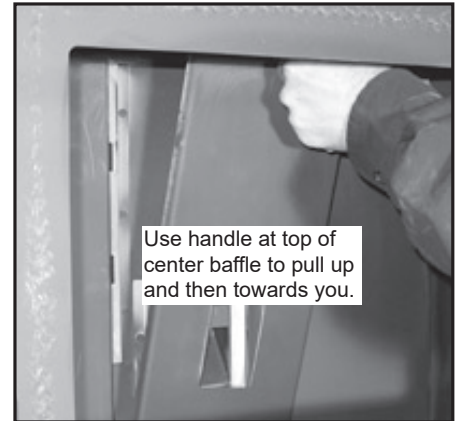

Figure 26.2
2. Remove the center baffle first by using the handle at the top of the baffle and pull up and then towards you. The hooks on the baffle will slide out of the slots in the bracket **(Figure 26.2)**.